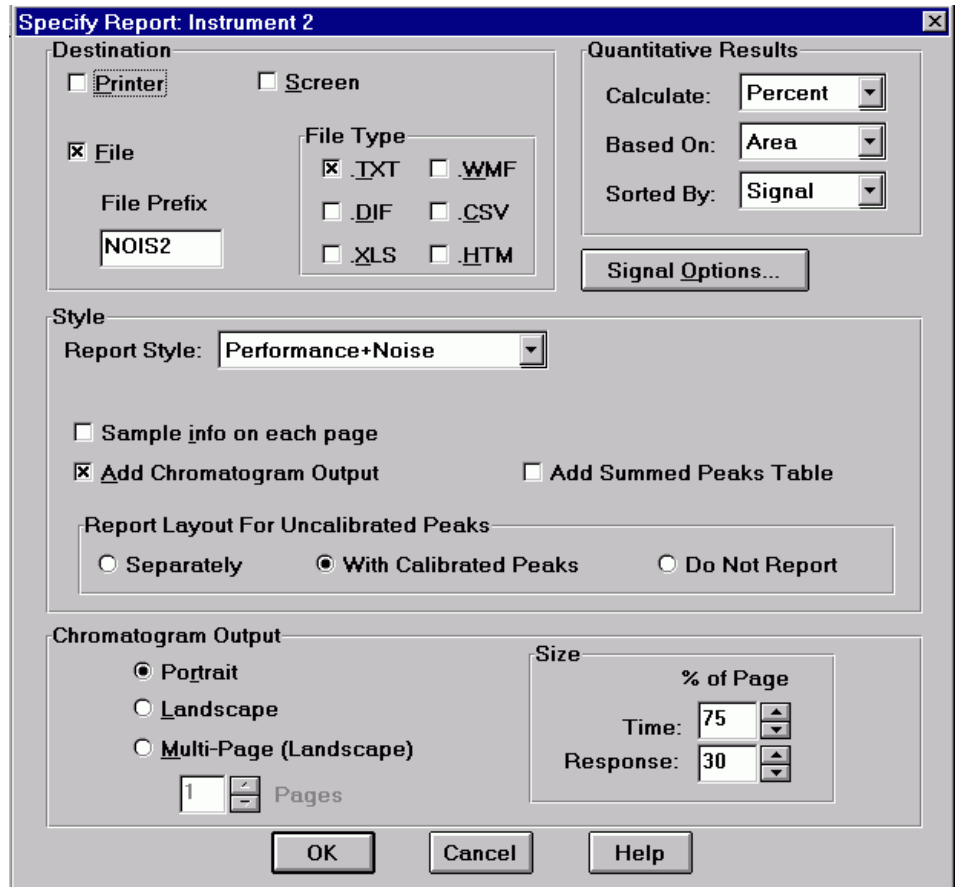

Figure 28 RID Baseline Check Out Report
- Specify the report style Performance + Noise as shown in Figure 28 on page 69